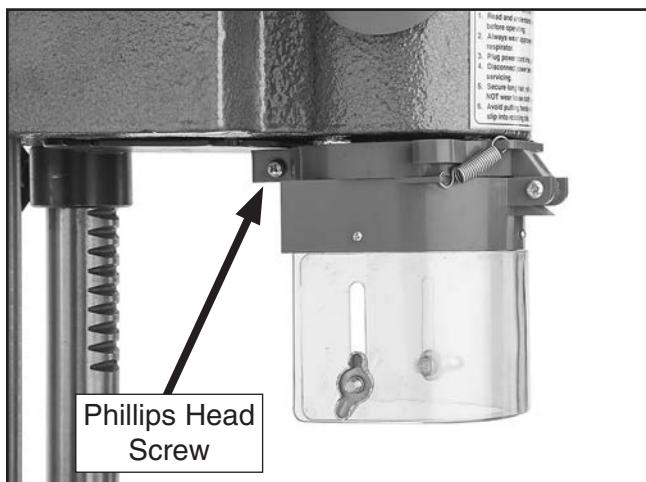

Figure 15. Chip guard installed around throat of headstock.
10. Slide chip guard around throat of headstock and secure with Phillips head screw (see **Figure 15**).